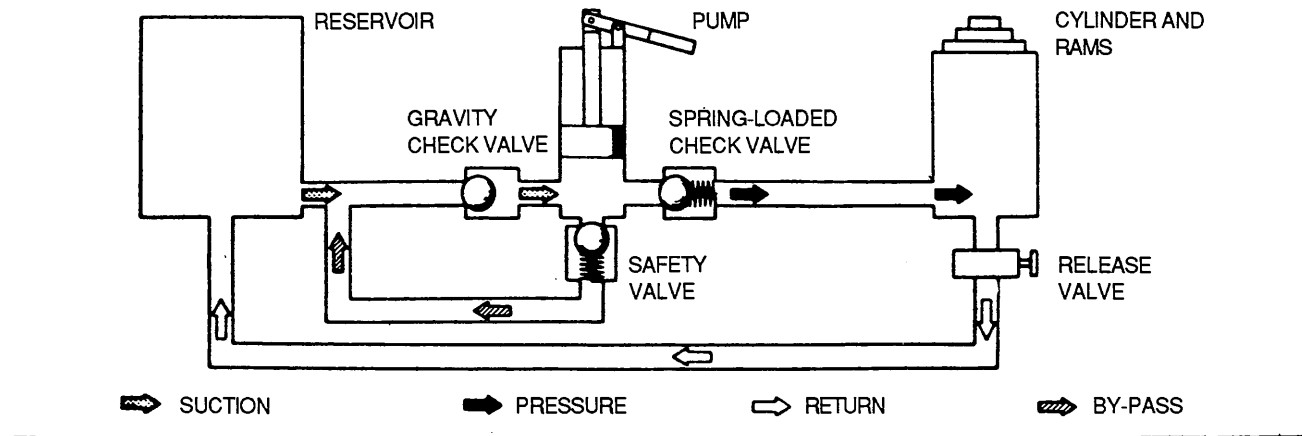

Figure 9-6. Jack Hydraulic Schematic Diagram
(1) Purpose. Aircraft jacks are designed to raise the entire aircraft or a specific portion of the aircraft so that maintenance can be performed. Jacks come related with different lifting capacities, ranging from 3 tons to over 25 tons.
(2) Principles of operation. A generalized jack hydraulic schematic diagram is shown in figure 9-6. The pump handle is moved up and down to raise the cylinder and rams. On the up stroke of the pump handle, the pump piston draws hydraulic fluid from the reservoir. On the down stroke, the piston pushes the hydraulic fluid under pressure through the spring-loaded check valve